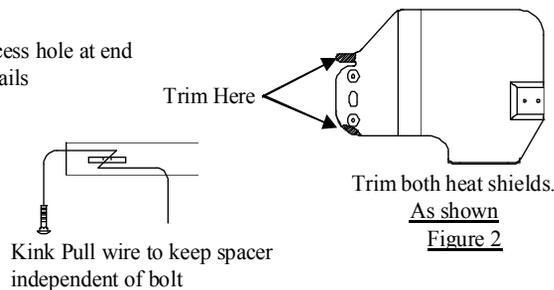

Figure 3
- Using the kink wire (see Figure 3) method for feeding fasteners attach carriage bolt and block to the pull wire. Feed forward fasteners into place on both rails using the access hole at the end of the frame rail. On the outside end of both rails there is a wide notch to make this process easier. Feed rearward fasteners into location using the same method. Note: Make sure spacer are sitting flat on the rails and not on existing weld nuts.
- Raise exhaust system (3) places back into position.